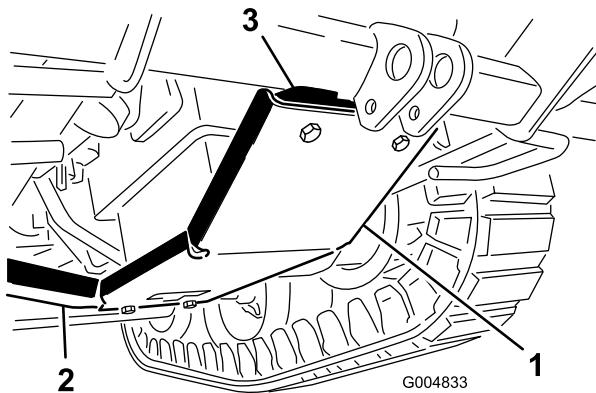

Figure 31
2. Install the skid plate (Figure 31) to the frame below the engine as follows:
- Mount the front of the skid plate to the skid mounting plate with 2 flange-head bolts (3/8 x 1-3/4 inches) and flange nuts (3/8 inch) (Figure 31).
- Mount the rear of the skid plate to the frame cross member with 2 bolts (3/8 x 1 inch) and flange nuts (3/8 inch) (Figure 31). Install the rear bolts from the top.